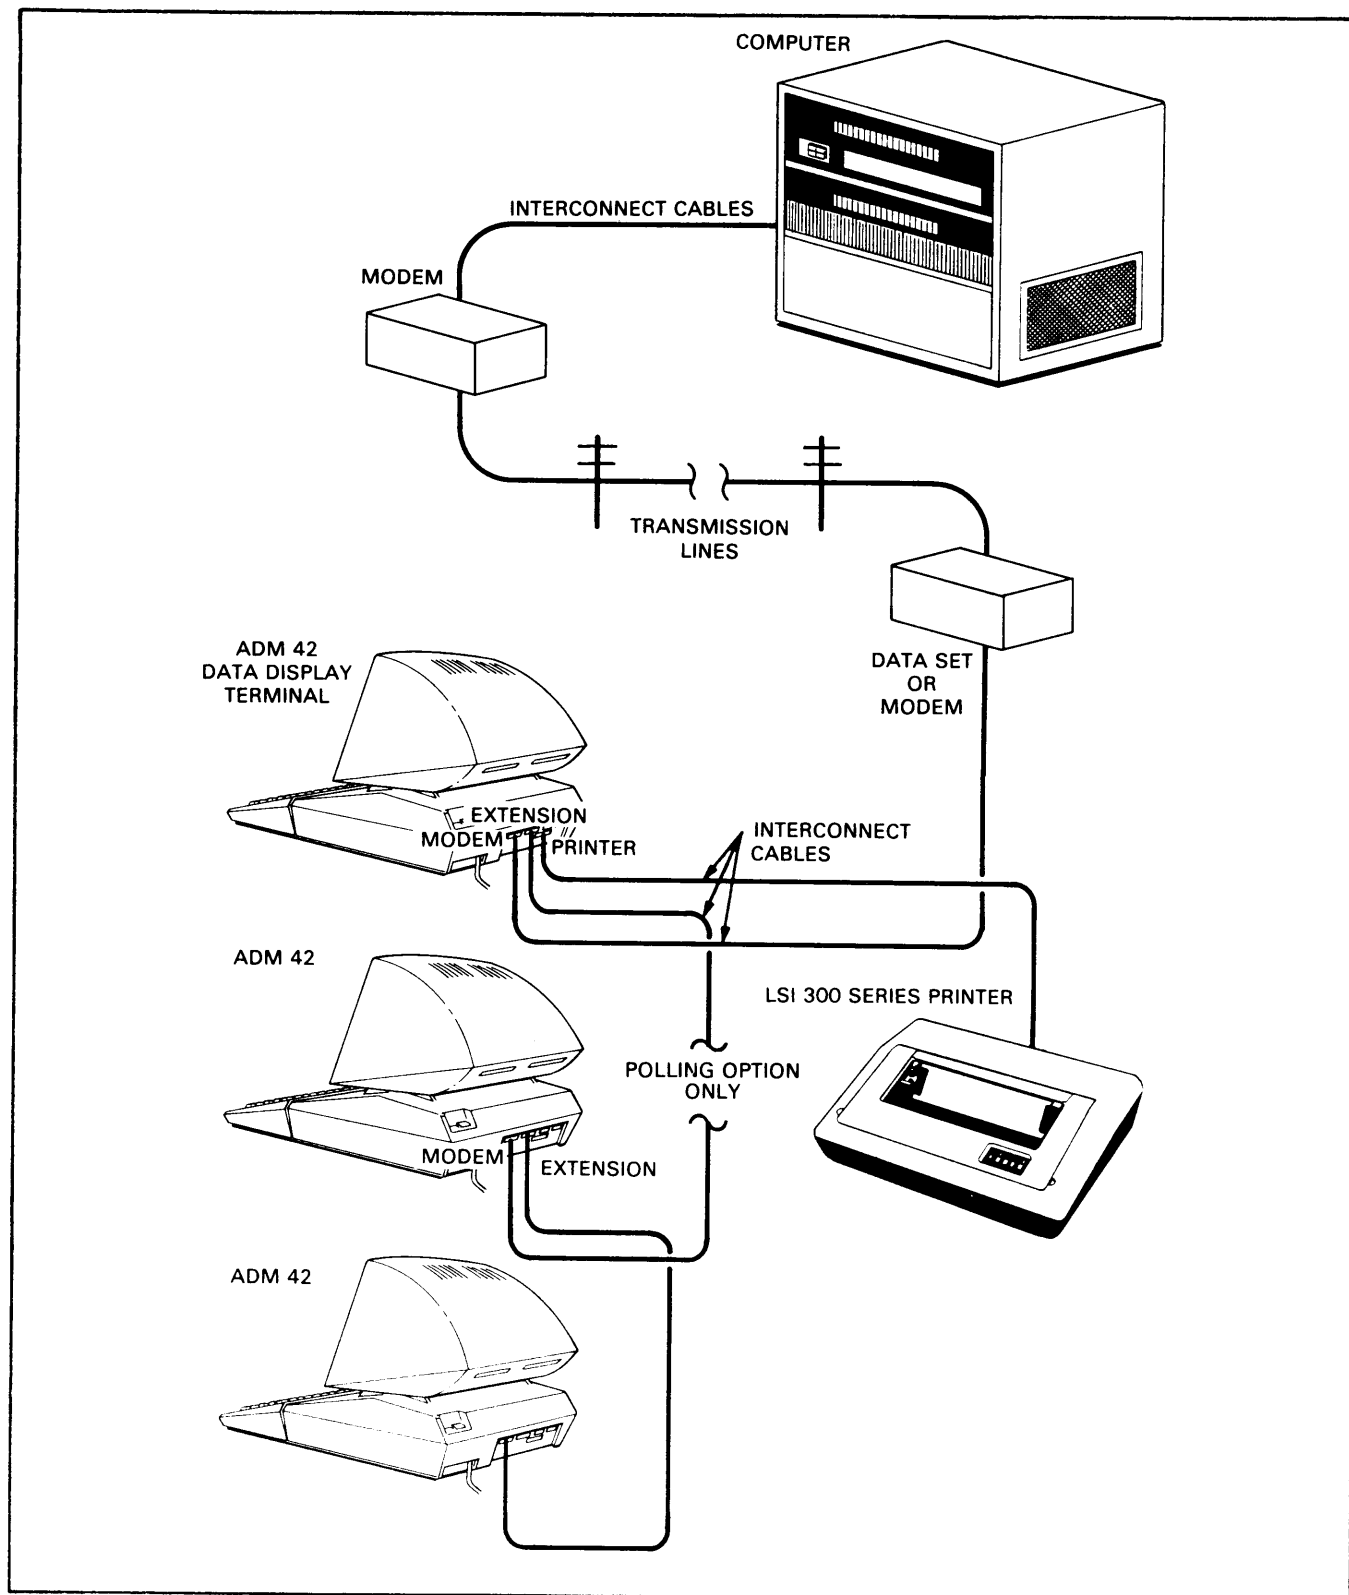
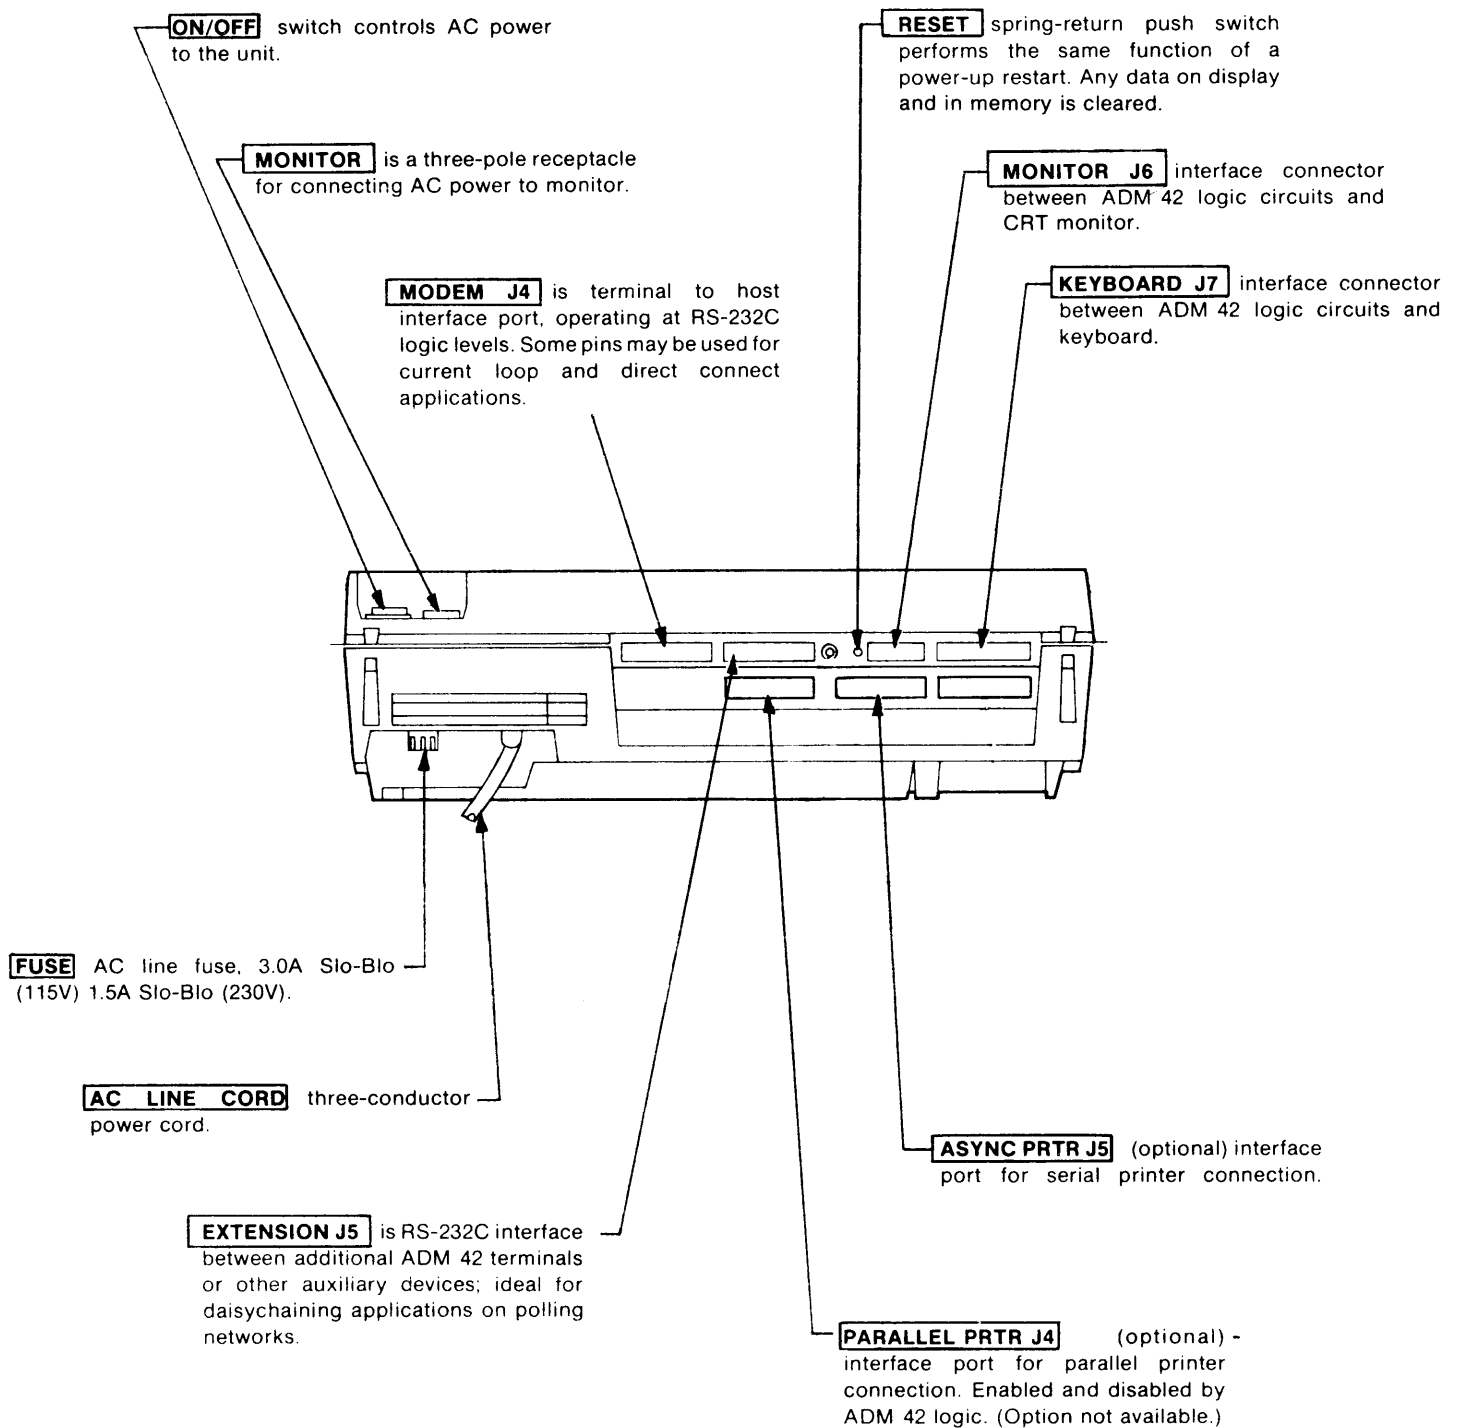

Figure 2-5. Typical ADM 42 Application
Figure 2-6. ADM 42 Rear Panel Controls
The ADM 42 may be cabled directly to a local computer, serial printer, or other auxiliary device; or it may be connected via telephone data lines to a remote computer located anywhere in the world. Remote computer connections require the use of a modem or data set. **Figure 2-5** shows a typical ADM 42 application, while **figure 2-6** shows the rear panel locations of the interface connectors.
2. Check the ON/OFF switch (**figure 2-6**) to ensure that it is set to OFF.
1. Set the ON/OFF switch to ON. Blower must be running. (See **figure 2-6**.)